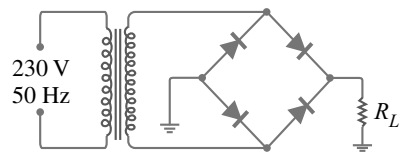

Fig. 4.89
11. In Fig. 4.89, the maximum secondary voltage is 136 V. Find (i) the d.c. load voltage (ii) peak inverse voltage (iii) output frequency. [(i) 86.6 V (ii) 136 V (iii) 100 Hz]